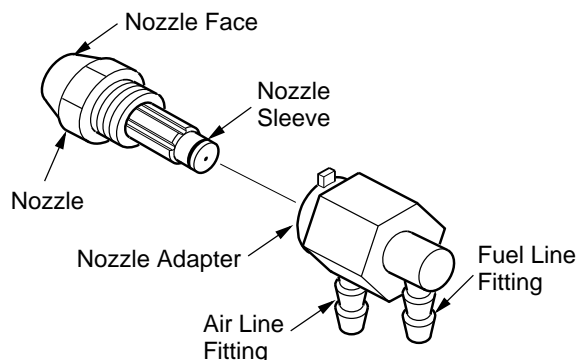

Figure 23 - Nozzle and Nozzle Adapter, All Models
6. Carefully remove nozzle from the nozzle adapter using 5/8" socket wrench. See Figure 23.
9. Replace nozzle into nozzle adapter until nozzle seats. Tighten 1/3 turn more using 5/8" socket wrench (40-45 inch-pounds). See Figure 23.